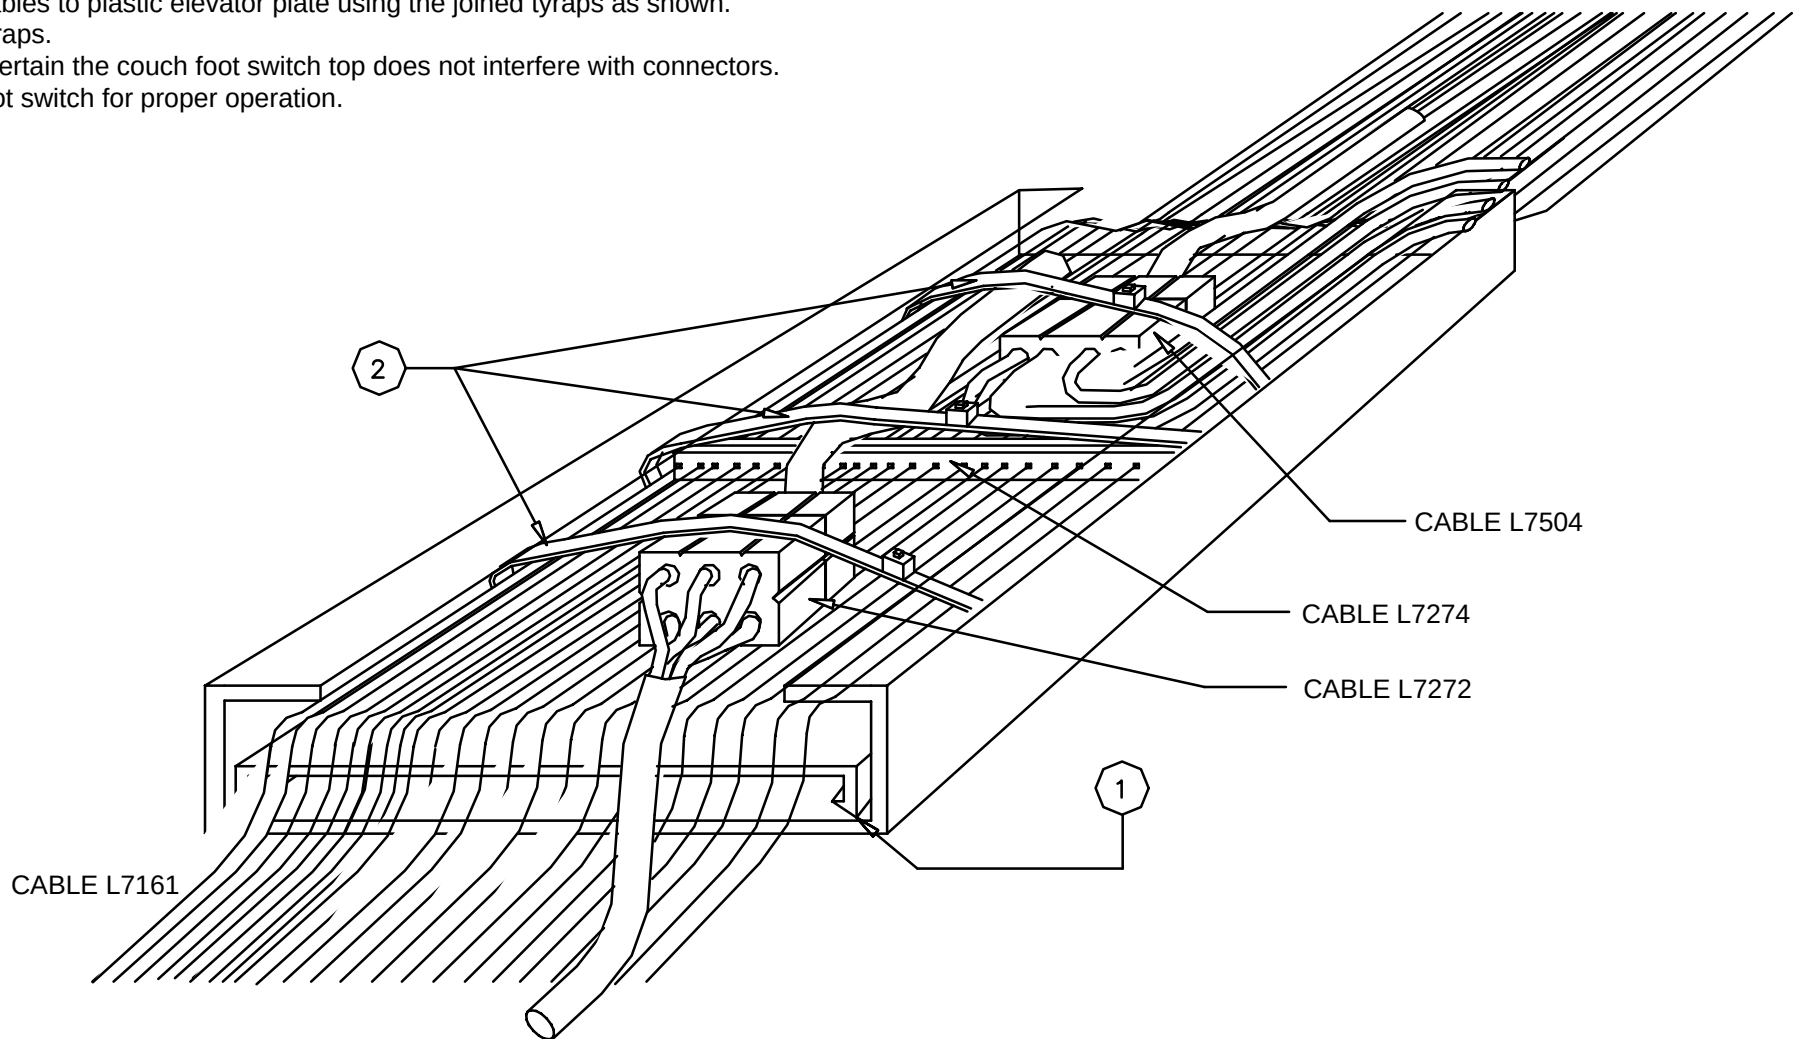

FIGURE 27 OPTIONAL PLASTIC ELEVATOR INSTALLATION
6. Connect cables L7161 and L7272 to the Patient Support. Refer to Figure 27 for cable connections.
For hospital locations that have ordered the additional plastic elevator plate for high fluid levels, refer to Figure 27 for instructions.